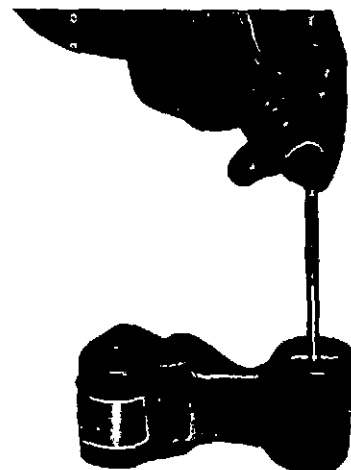

Fig. 4-18 (N10402). Measure The Cam Follower Bushing.
3. Check the bushing in the cam follower levers for scratches or other damage. Use inside micrometers to measure the inside diameter of the bushings, Fig. 4-18. Replace the bushings if they are not within the limits given in Table 2.